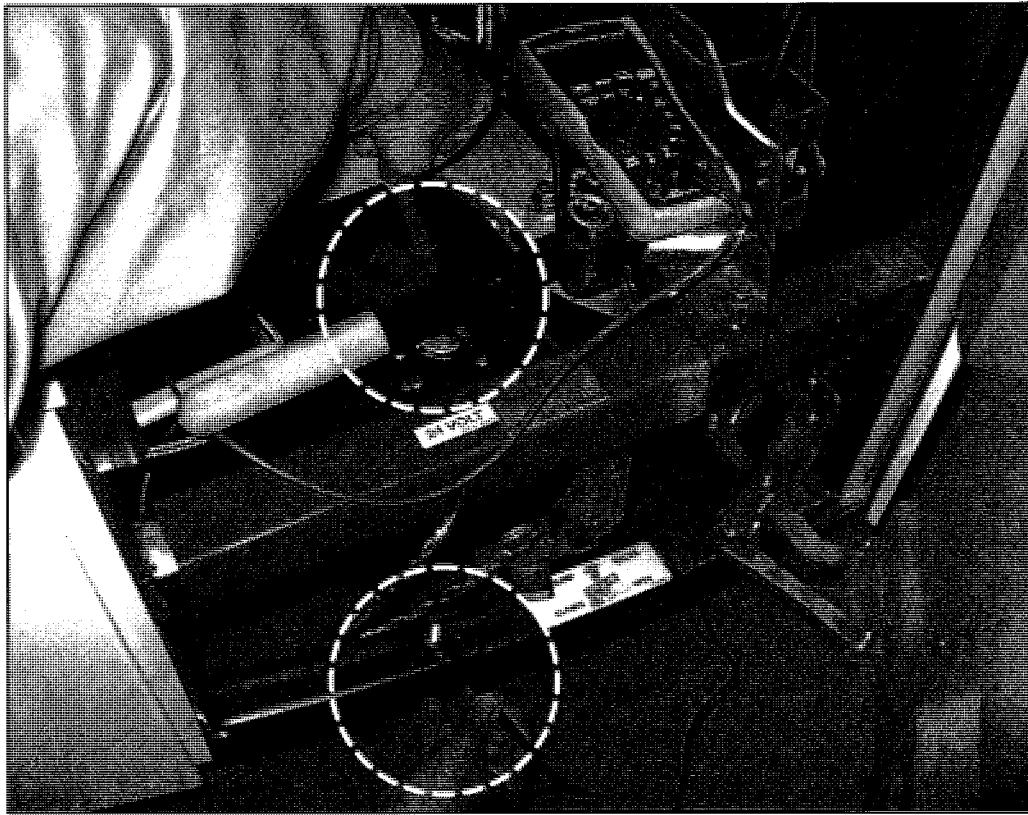

Figure 1.
2. Open the curbside, rear, side service compartment door. Locate the terminals and position a voltmeter across the jump start terminals (refer to Figure 1). Measure and record the voltage.